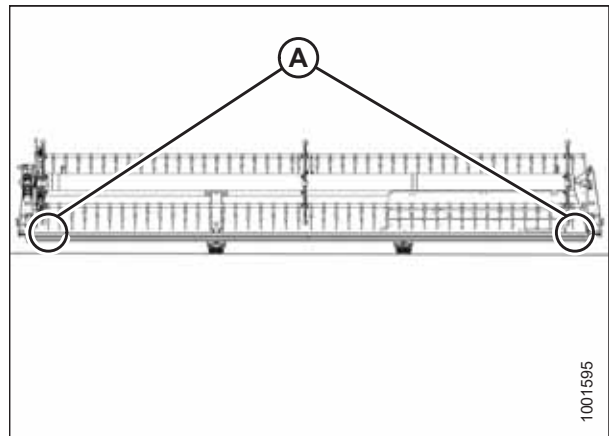

Figure 4.262: FlexDraper® Measurement Locations – Single Reel
- Single-reel headers: Figure 4.262, page 426